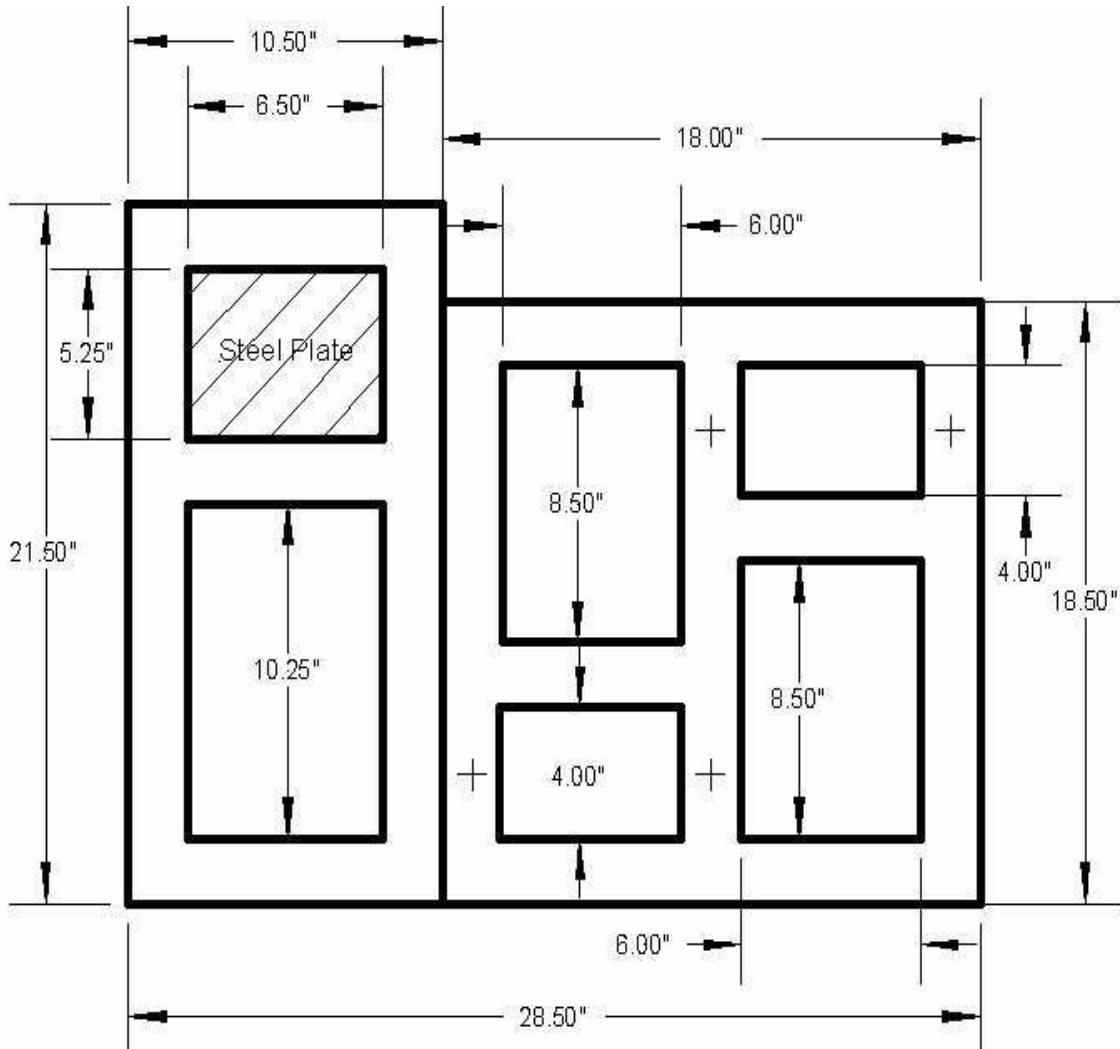

Figure 1 - Steel Base Dimensions
- Figure 1 - Steel Base Dimensions. . . . . 2